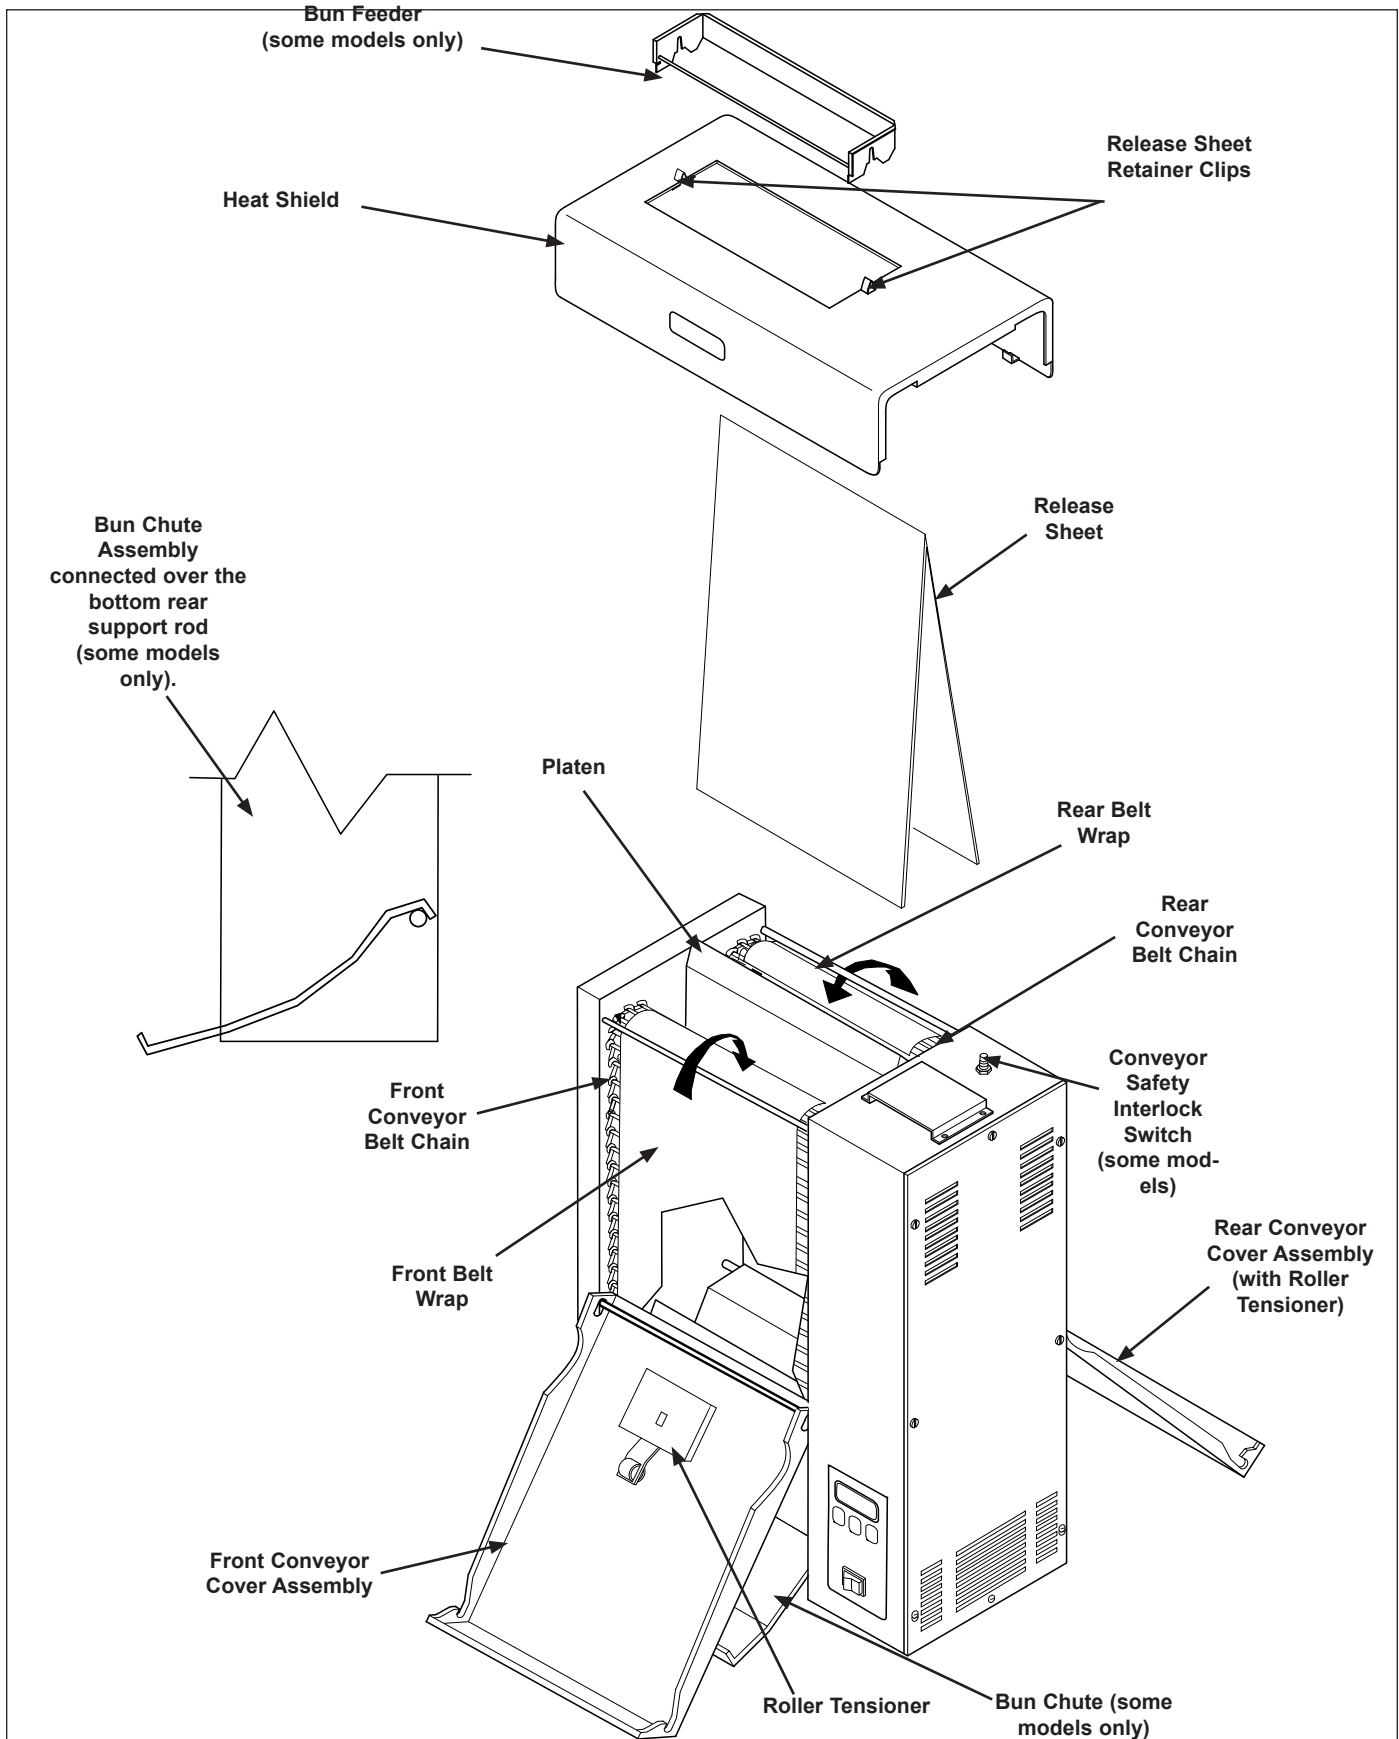

Figure 1. VCT-2000 Toaster
NOTICE: The factory has pre-installed a Release Sheet over the Platen (Figure 1). Verify that it is properly in place before proceeding.
Remove Bun Chute and Bun Feeder from the box and install (Figure 1).
2. Put on heat-resistant gloves and remove the Butter Wheel (if equipped), Pan, and Heat Shield (Figure 1).